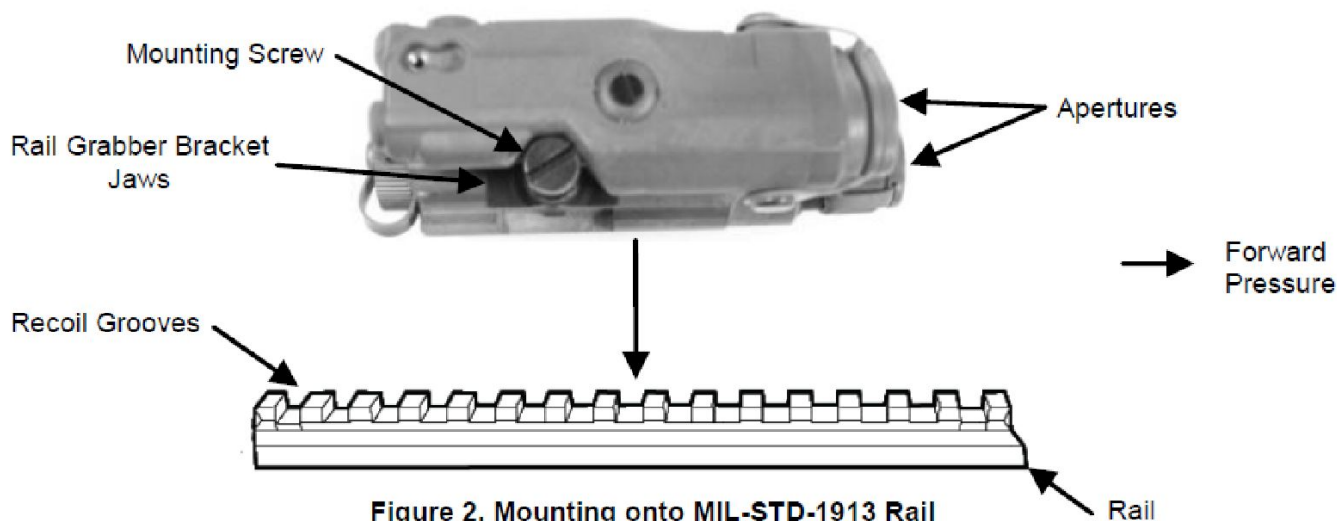

Figure 2. Mounting onto MIL-STD-1913 Rail
4. While pushing down and forward on the AN/PEQ-15, firmly tighten the Mounting Screw (Figure 2) by turning clockwise, ensuring not to over tighten.